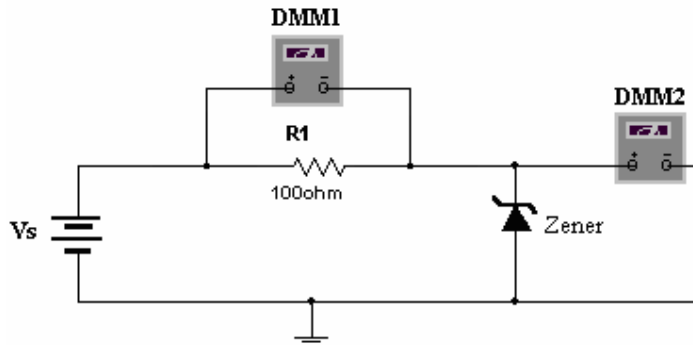

Fig.7: Zener Diode Test Circuit
17. Construct the circuit shown in Figure 7.